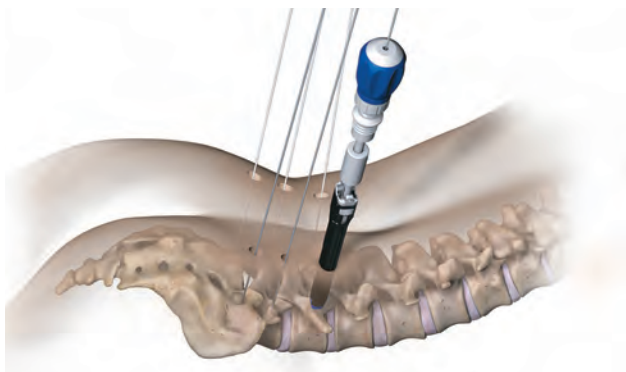

Figure 12a
- Insert the pedicle screw over the guidewire and push down until the screw is docked against the bony anatomy (Figure 12a).